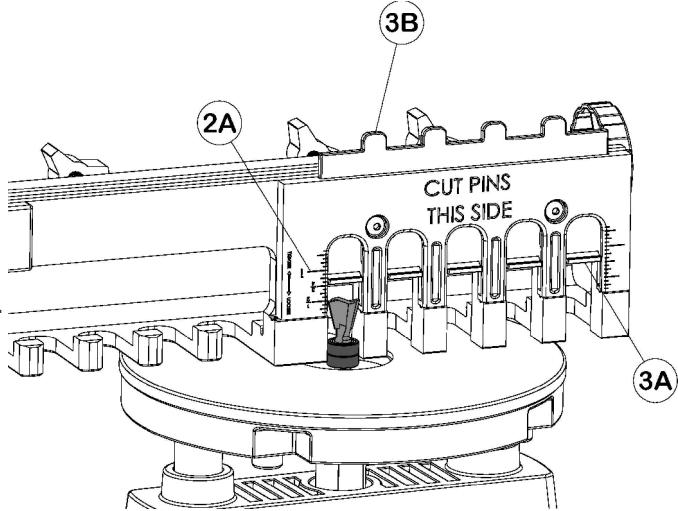

FIG. 6
2. Set the height of the Dovetail Cutter Bit using the Depth Measuring Working Surface ③A (FIG. 6).